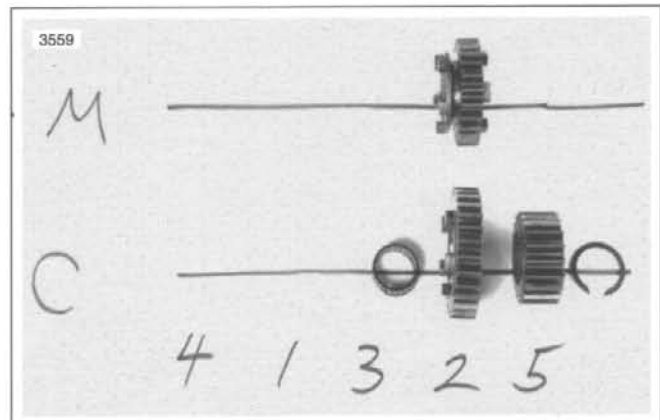

Figure 6-37.
3. See Figure 6-37. As each component is removed, place it on a clean surface in the exact order of removal.